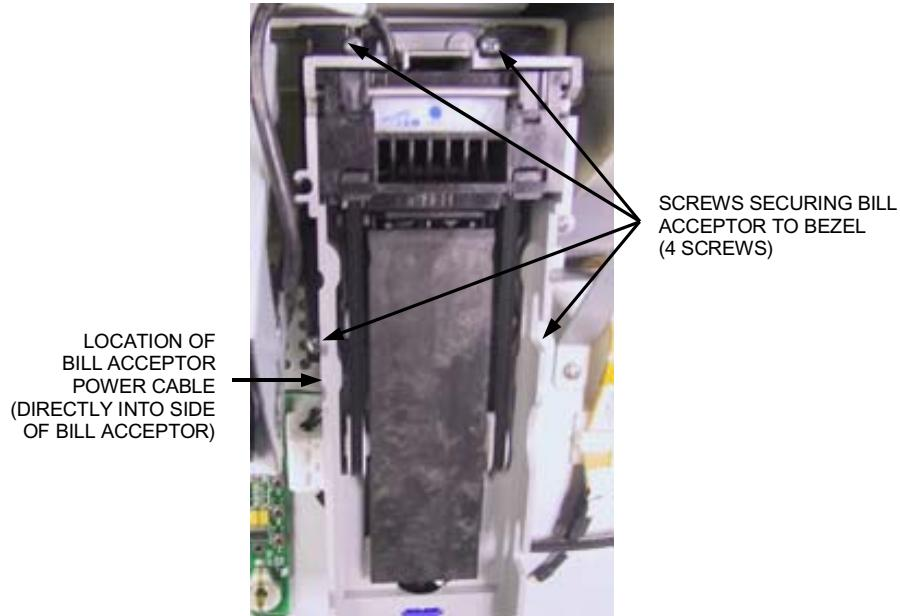

FIGURE 1 - BILLACCEPTOR WITH MAGAZINE REMOVED
3. Pull out the bill acceptor magazine by pushing in the blue button at the bottom of the acceptor and then sliding the magazine down and out. Remove the four screws securing the bill acceptor to the bill acceptor bracket (see Figure 1).
4. Remove the bill acceptor from the unit and disconnect the bill acceptor power cable that runs into the side of the bill acceptor (see Figure 1).